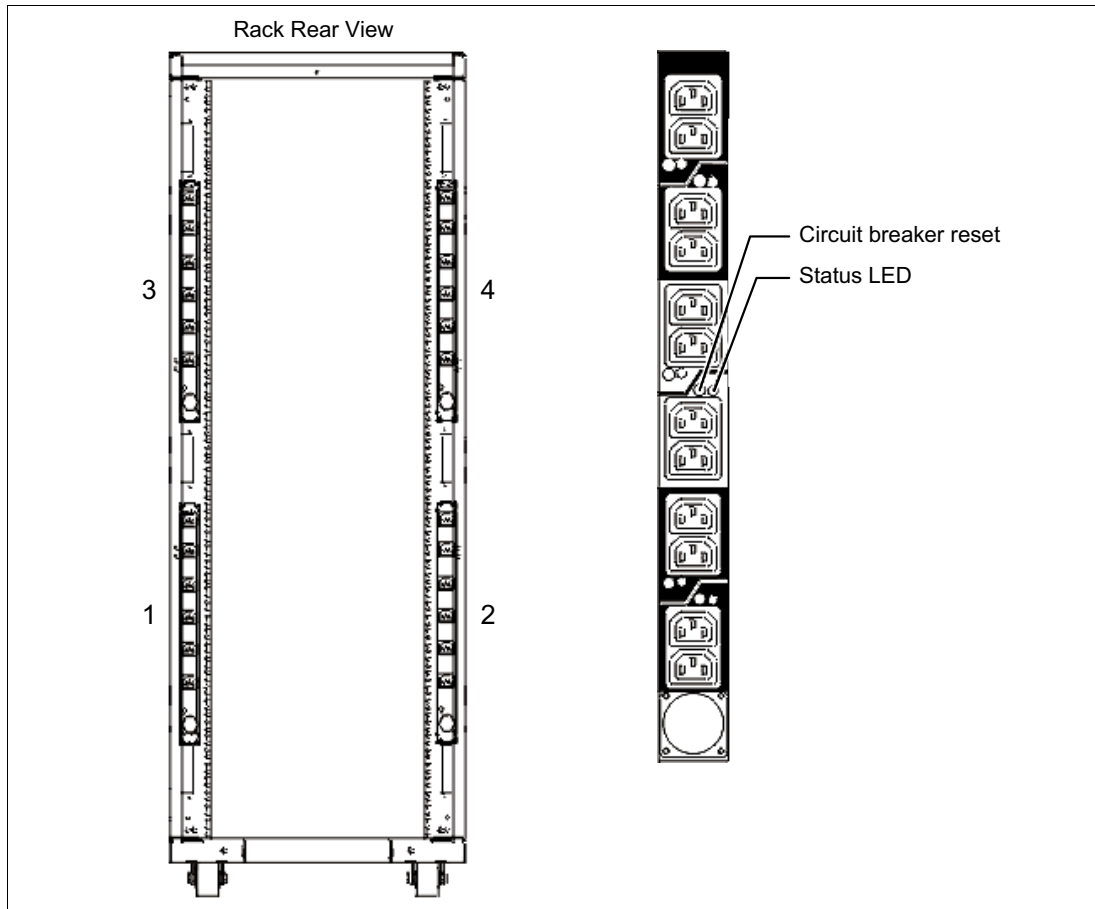

Figure 1-13 Power distribution unit placement and view
- ▶ Up to four PDUs can be mounted in the PDU bays (see Figure 1-13 on page 47), but others can fit inside the rack. For more information, see 1.9.7, “The AC power distribution unit and rack content” on page 45.
Four PDUs can be mounted vertically in the back of the T00 and T42 racks. Figure 1-13 shows the placement of the four vertically mounted PDUs. In the rear of the rack, two more PDUs can be installed horizontally in the T00 rack and three in the T42 rack. The four vertical mounting locations are filled first in the T00 and T42 racks. Mounting PDUs horizontally uses 1U per PDU and reduces the space that is available for other racked components. When mounting PDUs horizontally, the preferred approach is to use fillers in the EIA units that are occupied by these PDUs to facilitate proper air-flow and ventilation in the rack.